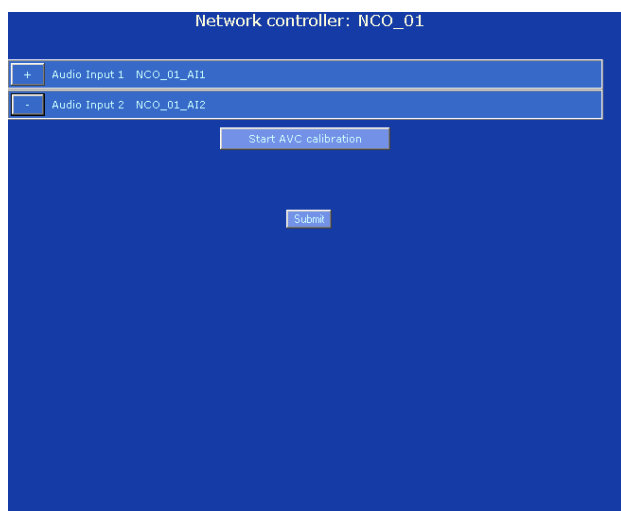

figure 40.2: AVC calibration button
- 7 Go to the *Audio processing* page of the audio input to which the sensing microphone is connected. A screen similar to the one in figure 40.2 appears.